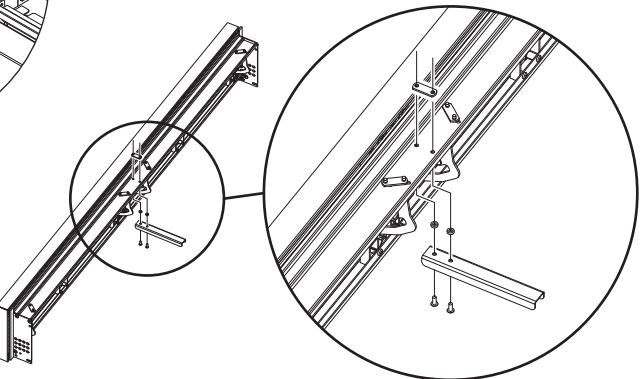

Figure 12. Dual Grille Slide Bracket Installation
2. Attach dual grille slide bracket to top back center of grille frame using the two #10-24X1/2" roundhead bolts, two 1/8"X.204 ID spacers and one dual nut provided (See Figure 12).